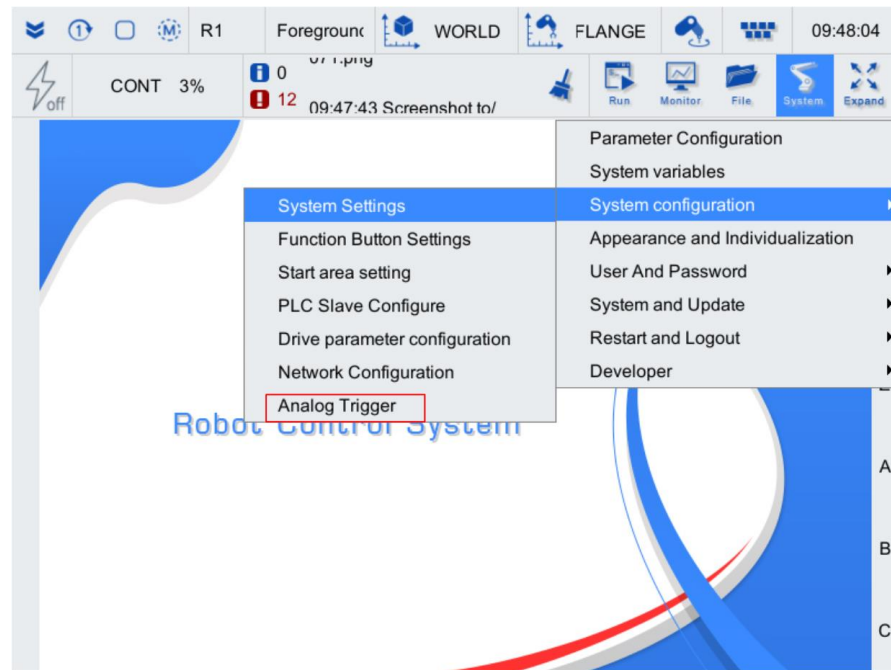

Figure 6-9 Teach pendant main interface
Step1. Click on [System/System configuration/Analog trigger] on the main interface of the teach pendant, as shown in Figure 6-9.